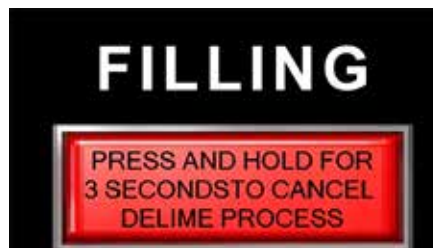

Fig. 59 - Machine fills
6. "CLOSE DOOR TO FILL" appears. Note the red door icon denoting an open door (Fig. 58). Close the doors. "FILLING" will appear and the machine fills, (Fig. 59).